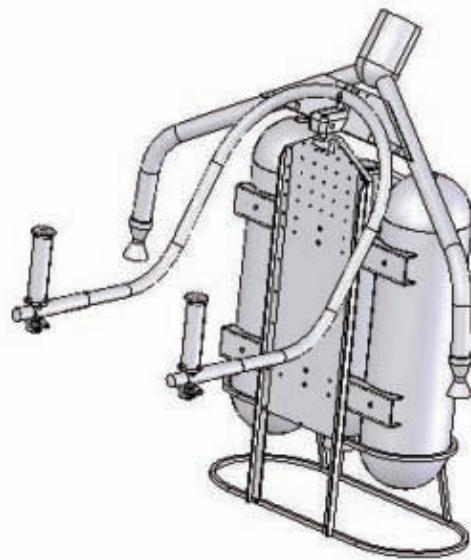

Figure 5-1 Rocket Pack designed by J. Harvey. Will it work in reality? Probably not.
1. It's a rare occurrence when a design works right off the drawing board. (see Fig. 5-1)